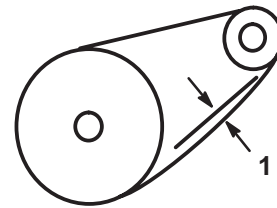

Figure 34
7. Check the deflection of the chain by lifting up on it with moderate pressure at the mid span. There should be a 1/8 to 3/8 in. (3 to 10 mm) deflection (Fig. 34).